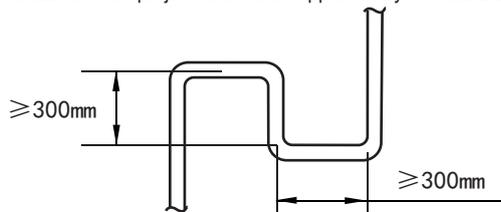

Fig.5-2
3. When the outdoor unit is on the top position and the difference of level is over 20m, it is recommended that set a oil return bend every 10m in the gas pipe of the main pipe, the specification of the oil return bend refers to Fig.5-2.